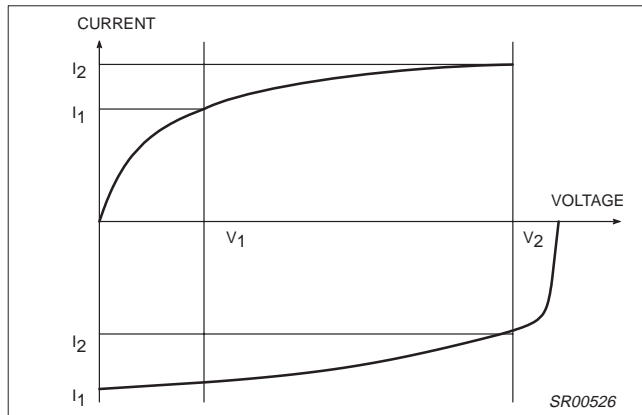

Figure 3. Relative Output Current Variation
- The relative output current variation is defined thus:  $\frac{\Delta I_{OUT}}{I_{OUT}} = 2 \cdot \frac{(I_2 - I_1)}{I(I_2 + I_1)}$ ; WITH  $V_1 = 0.7V$ ,  $V_2 = V_{CCCP} - 0.8V$  (see Figure 3).